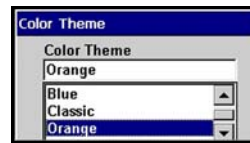

Figure 5-58 Sample Color Theme dialog box
2. Press **Y/✓** to open the drop-down list (Figure 5-58).